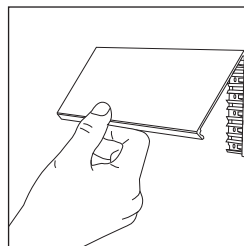

Fig.1
*Replacing Top or Single SignBands* (Fig. 1)